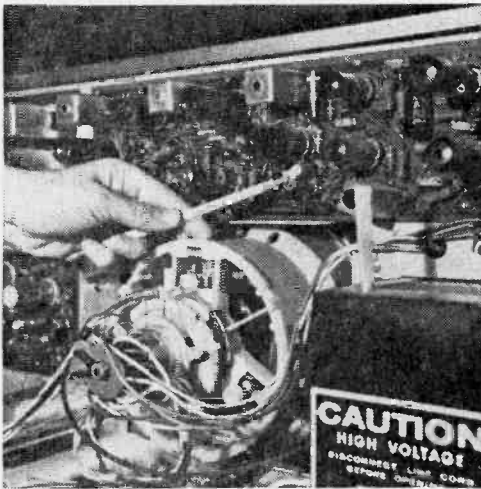

**Fig. 4.** Most color circuits are located on the "chroma" board. In typical set above, finger points to chroma board that occupies most of top half of chassis.
**Troublesome Bottles.** Tubes are usually the major cause of trouble so check them first. Since the no-color problem is almost always in receiver circuitry that handles only color, you won't have to look very far. It is common practice for the manufacturer to localize all chroma stages in one area. In many cases it is a separate printed circuit board, as in Fig. 4. And usually the function of one or more chroma stages is con-